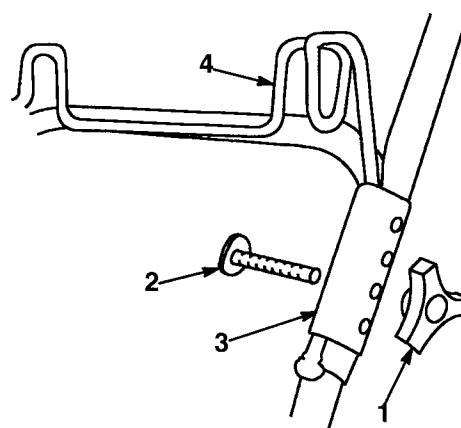

**Figure 44**
15. Grasp bag assembly handle and slide over flange of grass chute (Fig. 44). Push downward on handle until it seats into position.